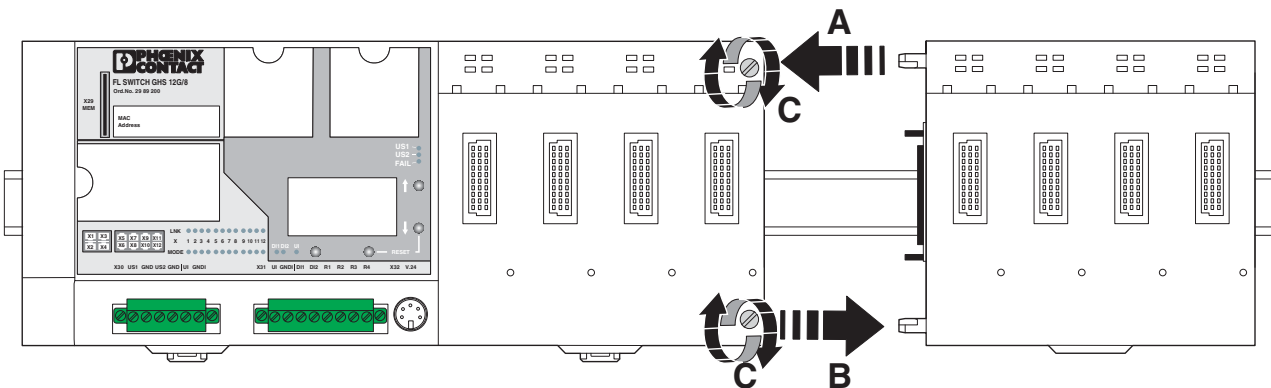

Figure 2-4 Mounting/removing extension modules
2. Remove the two screws - see (C) in Figure 2-4.
3. Push the right-hand extension module along the DIN rail to the right until the plug-in contact is completely free - see (B) in Figure 2-4.
5. Then swivel the bottom of the module away from the DIN rail slightly (A). Next, lift the module upwards away from the DIN rail.